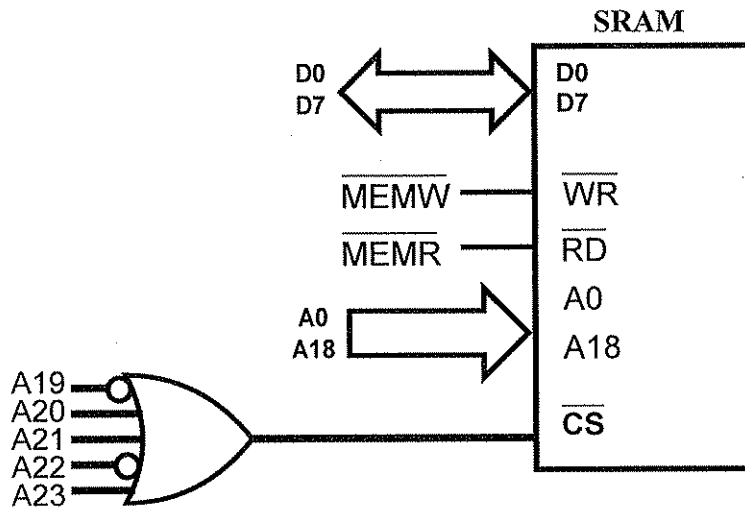

Figure 3(a) Address Decoding
- (a) Identify THREE (3) errors in the above instructions. Briefly explain why it is incorrect and write the correct codes according to the Assembly Language. (9 marks)
- (a) Calculate the address range for selecting the chip shown below in Figure 3(a).